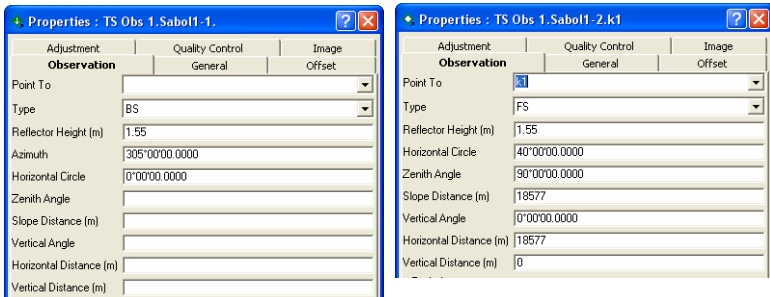

Figure 5-97. Properties for BS and FS points
- For BS, set the value for the Horizontal Circle (Figure 5-97 on page 5-67). If this unit was equal to zero, set zero in this field.